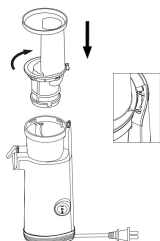

Fig 3
3. Position the chute on the bowl to align the ▲ to the “☞” and twist it clockwise until it clicks the safety lock. Please make sure that the arrow ▲ on “☞” the cover aligns with the Lock graphic on the Bowl. (Fig 3)